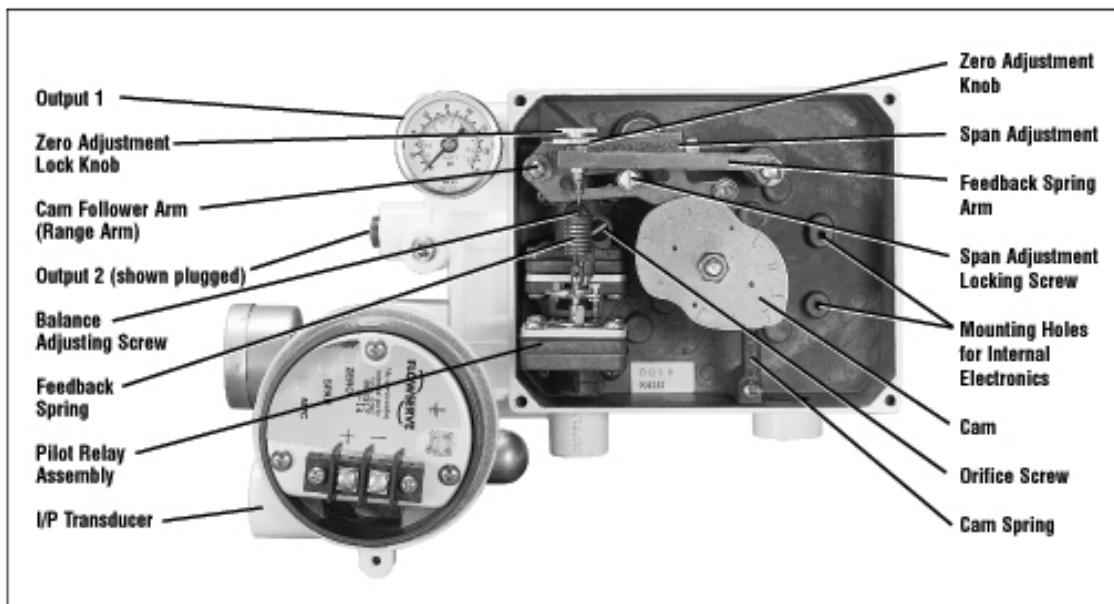

Figure 4: Positioner Adjustments
For calibration, refer to Figure 4 and proceed as follows:
7. Connect Cam return spring. See Figure 4.
4. Remove rubber cap over balance adjustment screw. (See Figure 4.)